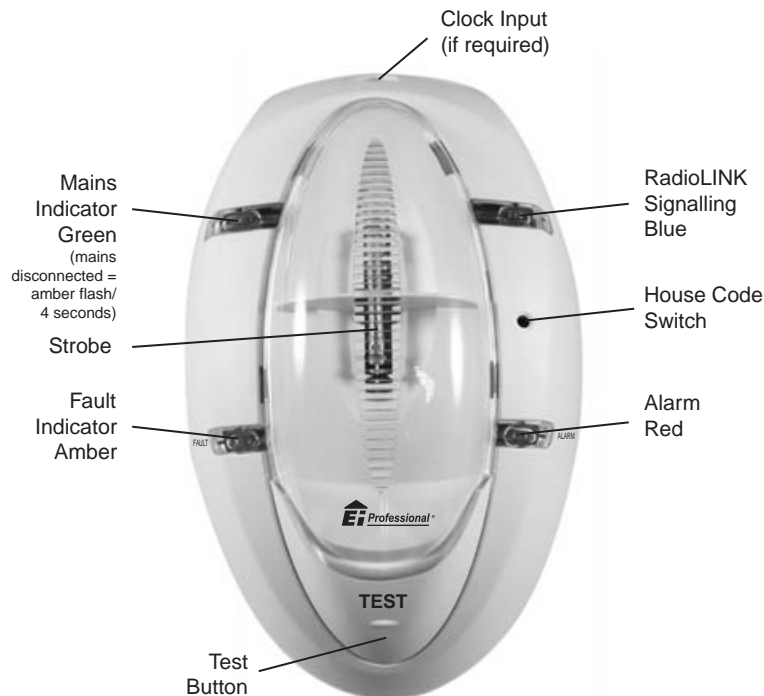

Figure 4
3.1.2 Press the House Code switch on all units – see individual instruction leaflets for switch locations. On the Strobe Module, the House Code switch is pressed by means of small screwdriver (or similar, diameter of top less than 3mm), through the access hole on the top of the unit – see figure 4.
Check the Strobe Module indicator lights as follows (see figure 4)
"Clock Input" Socket: (*not available without a vibration pad*) A suitable alarm clock signal (with a 5 to 24 Volts AC or DC output – electrically isolated from the mains supply) can be connected to this input socket with a 3.5mm mono jack plug. (see figure 4) When the alarm clock triggers, the vibration pad turns on continuously (i.e. it is not pulsed) to wake the person, but the internal strobe or auxiliary outputs are not activated. This lets the user know it is a wake-up call and not a fire. Therefore the user needs only one vibration pad under their pillow or mattress – rather than two, one for the Fire Alarm and one for the alarm clock.